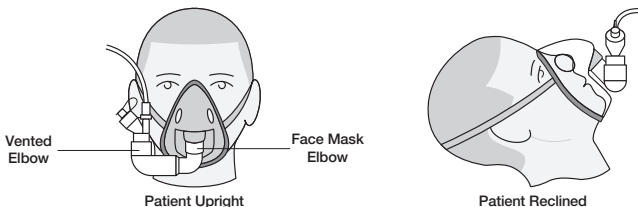
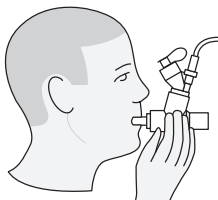

Figure 13. Connecting to a mask
Figure 14. Connecting to a mouthpiece
Note: For use with other accessories, refer to Figure 13, Figure 14 and Figure 15.
2. Rotate the vented elbow to suit the position of the patient (Figure 13).
When using a mouthpiece, connect the nebuliser to the T-piece and then connect the T-piece to the mouthpiece by pushing the parts firmly together as shown in Figure 14.
Warning: To ensure correct nebulisation, maintain the nebuliser in a vertical orientation (Figure 13 & Figure 14).